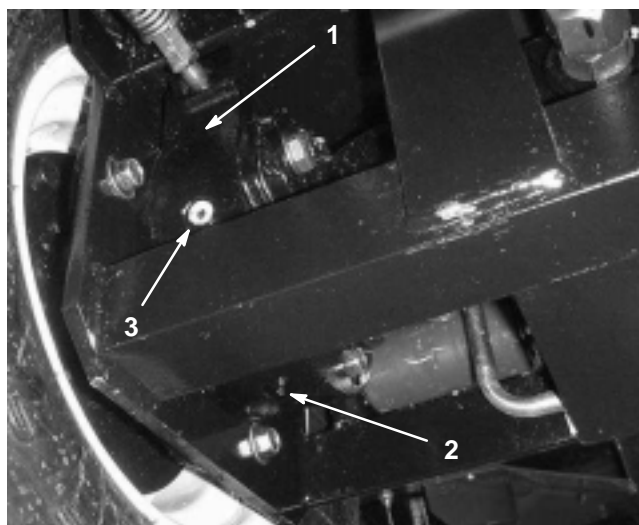

Figure 71
4. Place a drain pan under the brake housing on the other side of the wheel (Fig. 71).